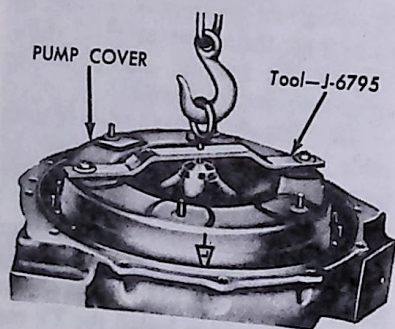

FIG. 18 Removal
2. Remove the converter pump cover, lockup clutch reaction plate, and clutch plate (Fig. 18). Remove the seal ring from the reaction plate and pump.